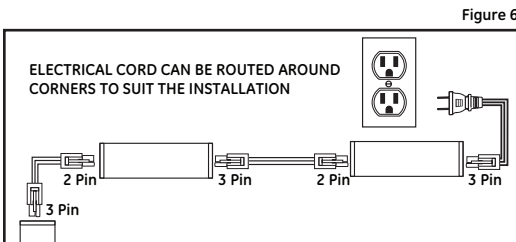
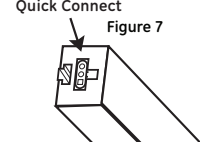

Figure 6
Figure 7
1. Attach additional fixture with the 18" (45.72cm) quick connect cord provided in the installation kit. A maximum of 40 fixtures can be connected together. See **Figure 6 and Figure 7**. (See product label located on the fixture for electrical rating.)
2. Attach the quick connect power cord with the plug and three pin quick connector to the fixture closest to the outlet. See **Figure 6 and Figure 7**.